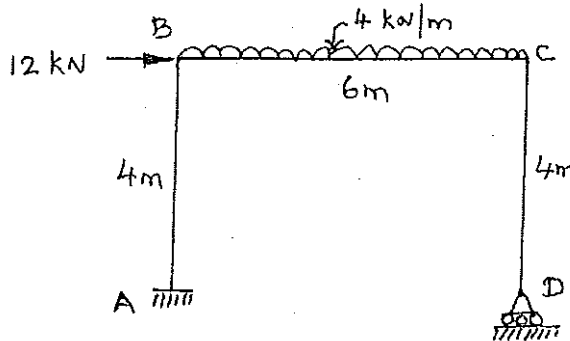

Fig. Q. 11 (b)
- b) Using consistent deformation method, determine the vertical reaction at the roller support (D) for the frame shown in Fig. Q. 11(b). Flexural rigidity EI is constant for all the members.